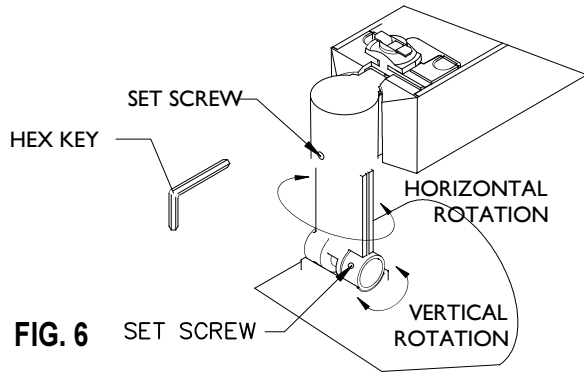

FIG. 6
1. Adjust VERTICAL and HORIZONTAL aim (FIG. 6).